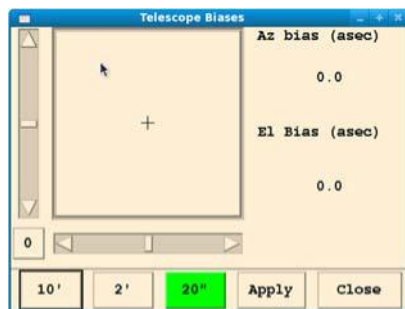

Figure 4-18: Telescope bias window (Az/El Handpaddle)
- a. **Method 1: Use the Telescope bias window** – Open the window by going to *View => Az/El Handpaddle* and adjust Az/El Bias using the slider bars or by clicking in the window and selecting Apply (Figure 4-18).